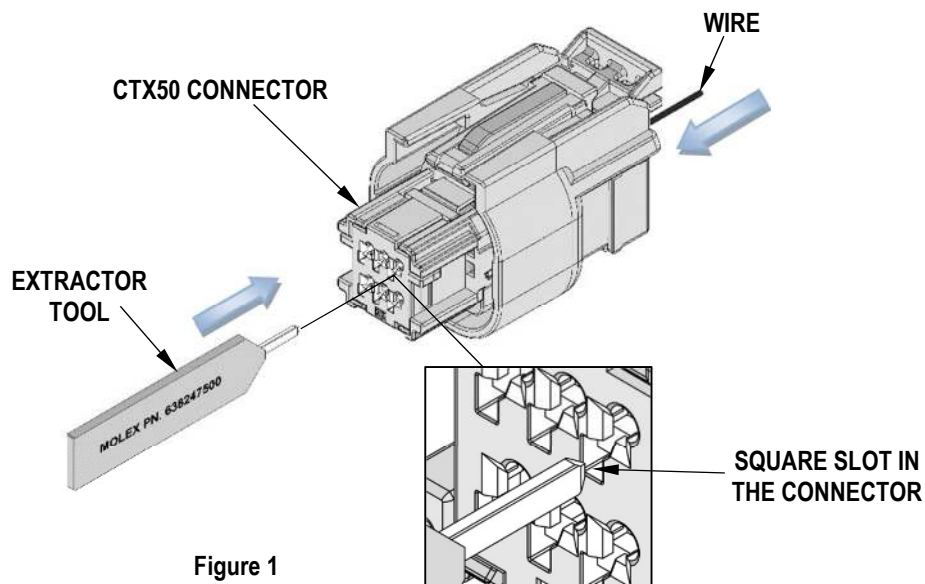

Figure 1
1. Position the extraction tool blade into the small square slot (in line with the terminal to be removed) in the front face of the housing. See Figure 1.